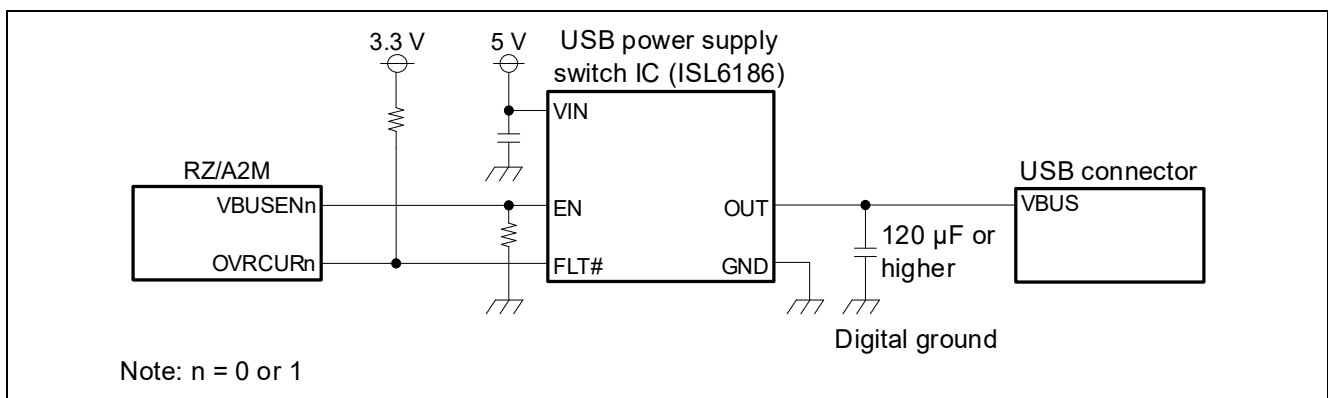
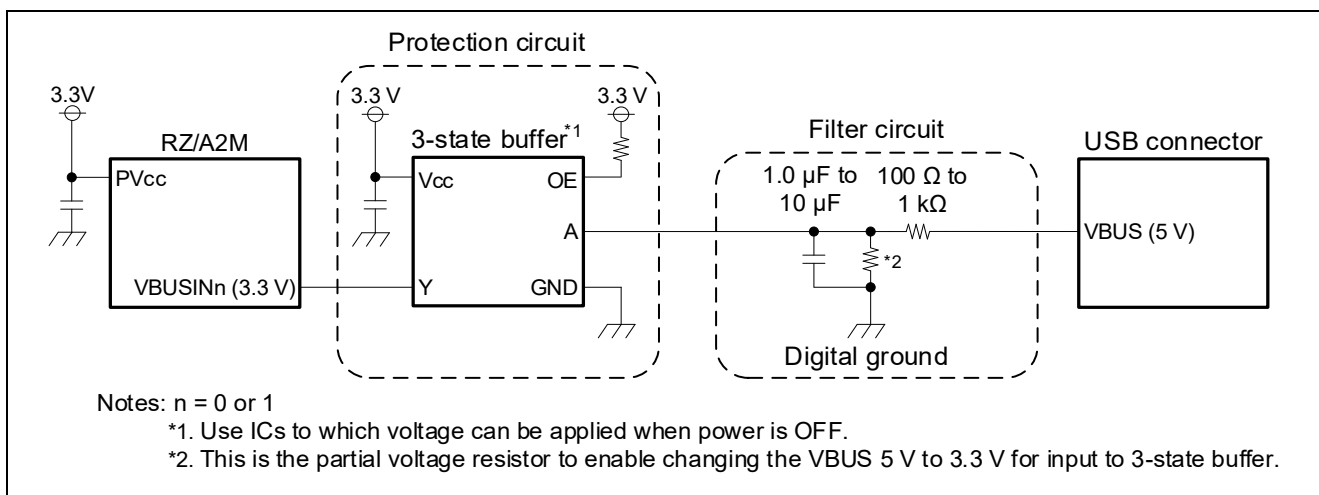

Figure 5.1 Example of VBUS circuit for using RZ/A2M as a host controller
Figure 5.2 Example of VBUS circuit for using RZ/A2M as a function controller
- When the RZ/A2M is used as a USB function module, if the RZ/A2M power supply is OFF and the USB host module is connected, voltage that exceeds the absolute maximum rating*¹ might be applied to the RZ/A2M VBUSIN input pin, and it may permanently damage the LSI. In order to avoid this, refer to the protection circuit shown in Figure 5.2 and ensure that the RZ/A2M is protected.
Figure 5.1 shows an example of the VBUS power supply circuit when it is used as a host controller and Figure 5.2 shows an example of the VBUS power supply circuit when it is used as a function controller.
10	Figure 5.2: Addition of dotted line to indicate protection circuit, changed CR location